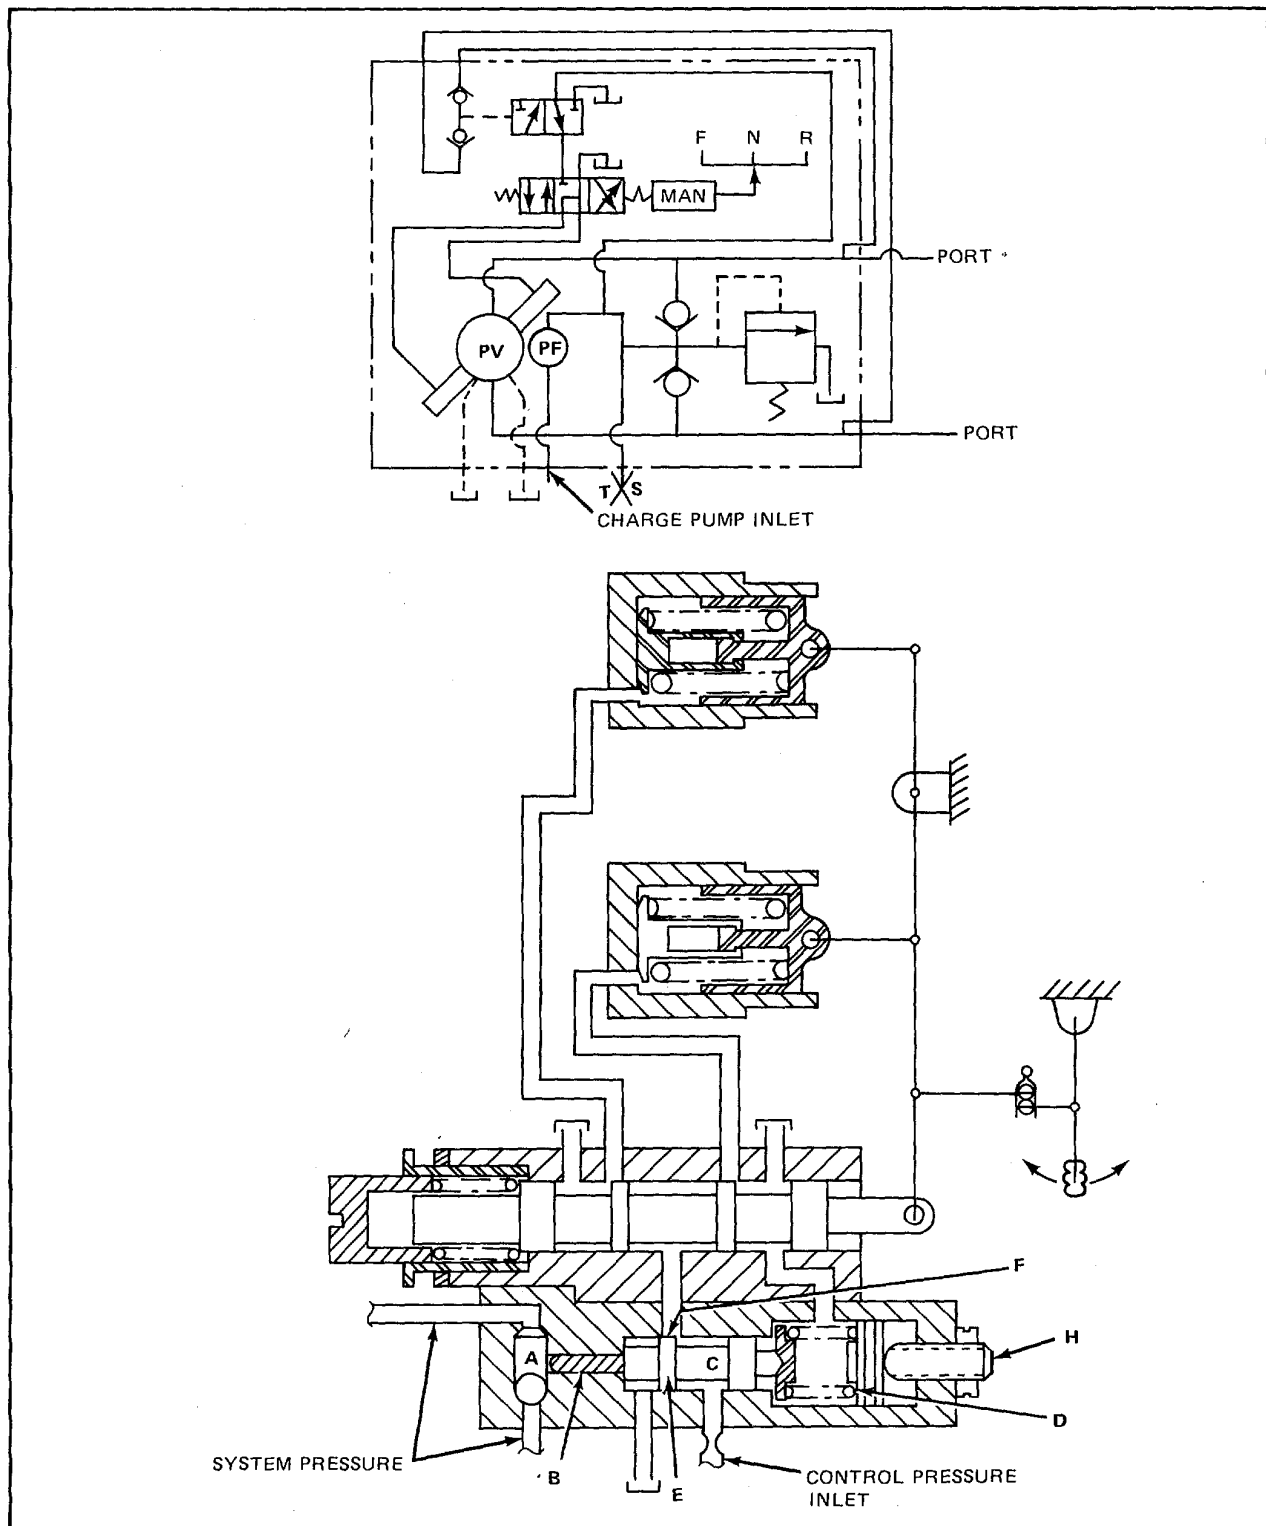

Figure 3. Pressure Override Control
The pressure override control valve will override the displacement control and will control the displacement of the variable pump when the load requires a system pressure above the override pressure. During this mode of operation, a ball check senses the pressure from both sides of the loop and ports the higher pressure into cavity (A) (refer to Fig. 3) and against signal piston (B). The signal piston (B) forces the controlling spool against a spring (D). As system pressure increases, the spool (C) moves toward the spring (increased force on